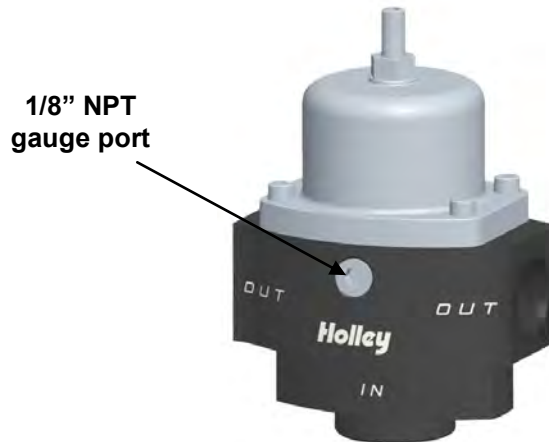

Figure 1
3. Connect the fuel line from the “out” side of the pump to the “in” side or bottom of the regulator. (Figure 1) All fuel line connections must be leakproof.